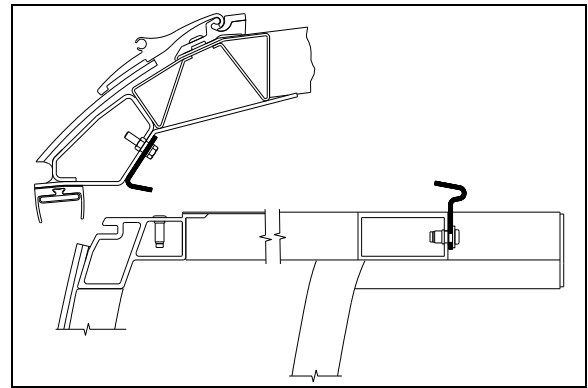

FIGURE 37: ROOM 2" INSIDE - UPPER SECTION VIEW
Do not retract slide-out room too far in. Retract just past the wiper seal. (Figure 37)
4. Using the manual override procedure paragraph 18, move the slide-out 2" inside the vehicle, just so the seal becomes accessible from the outside (Figure 37).
5. Once completed, use the manual override procedure to extend the slide-out to reinstall the exterior extrusion. Apply appropriate sealant on the exterior extrusion screws and between the extrusion, the roof and the edges to prevent water infiltration (Figure 37).